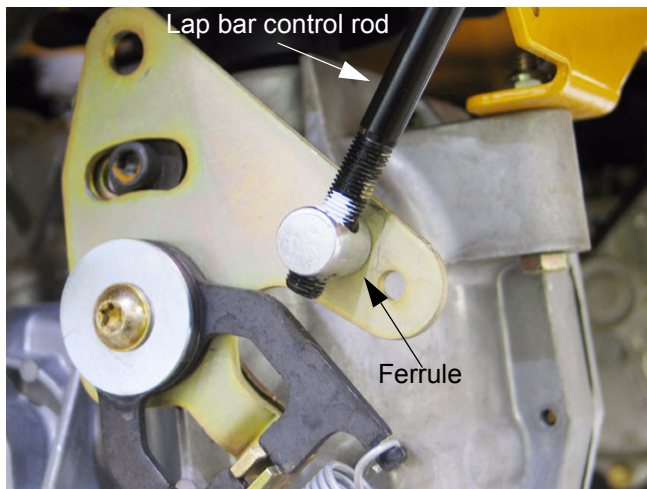

Figure 6.6
- 6.6. Mark the lap bar control rod threads near the clevis pin. See Figure 6.6.